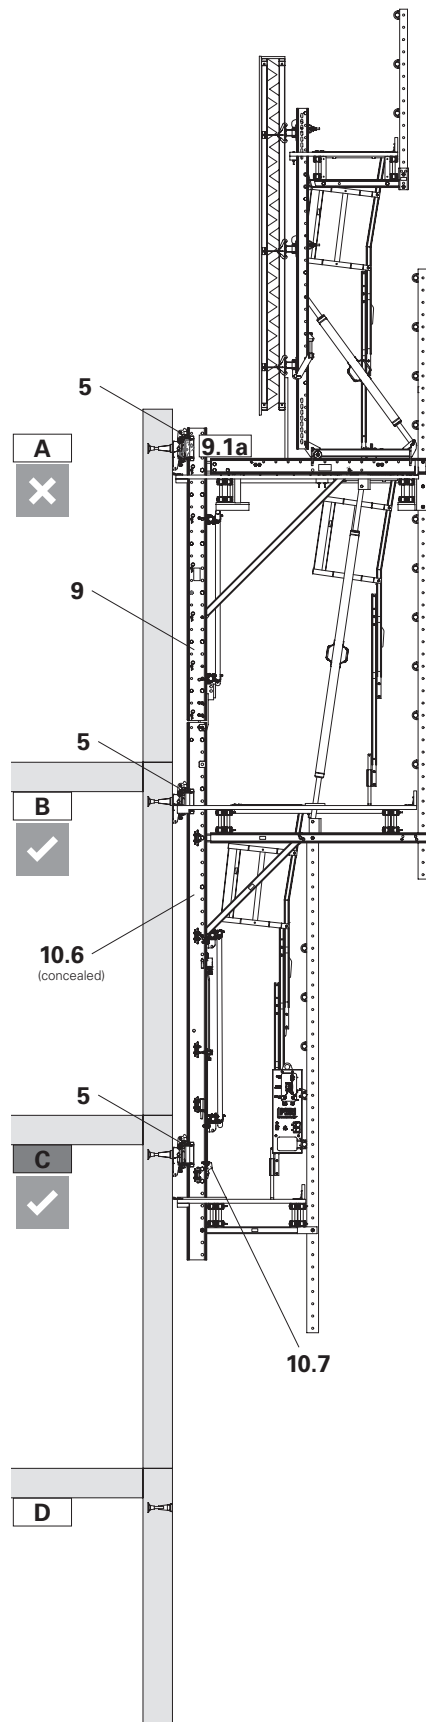

Fig. C4.08
- The first spacer (9.1a) of the climbing rail (9) moves past the climbing pawl (5.1) in the climbing shoe (5) at position A.
- The load is resting on Climbing Shoe RCS (5) at position C by way of a climbing saw (10.6) using the vertical load pawl (10.7).
13. If necessary, fit the guardrails. (Fig. C4.08)